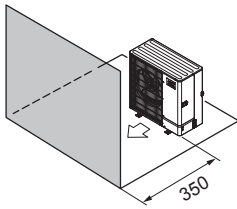

Fig. 1-25
- ④ Obstacles at front only (Fig. 1-25)